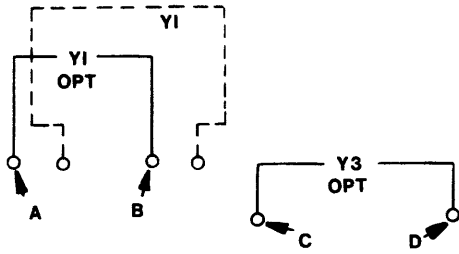

Figure 2-1 Feed Throughs
1. Remove crystal Y1 from the logic board. Also remove the solder from the feed throughs on the logic board (indicated in Figure 2-1 as A, B, C, and D).